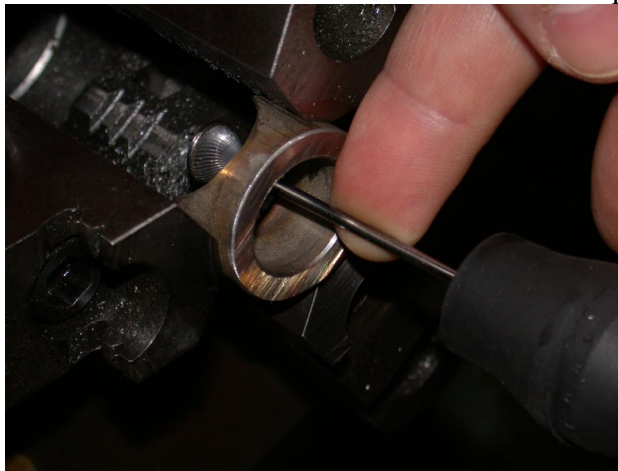
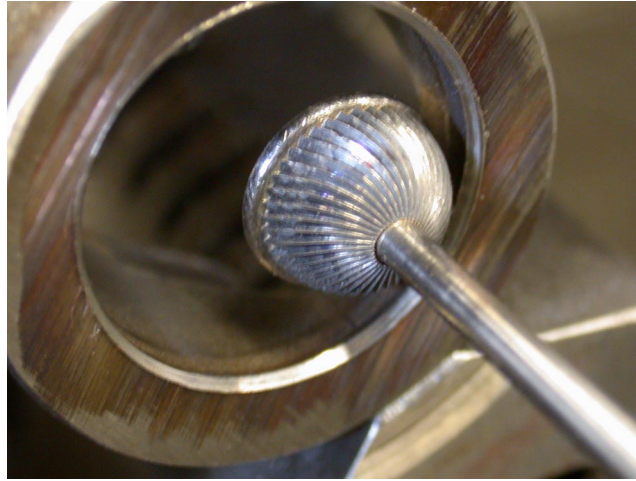

Figure 6.
Figure 7
5. With a finger deflect the tool (Figure 6) and at the same time retract (Z axis) until the Protective Disk of the Orbitool rests on the inside surface of the part (Figure7).